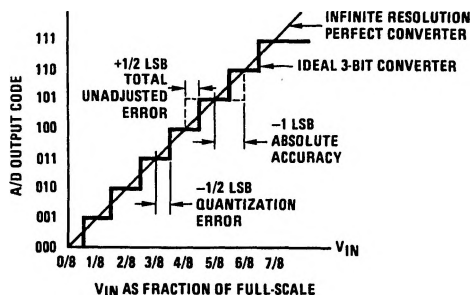
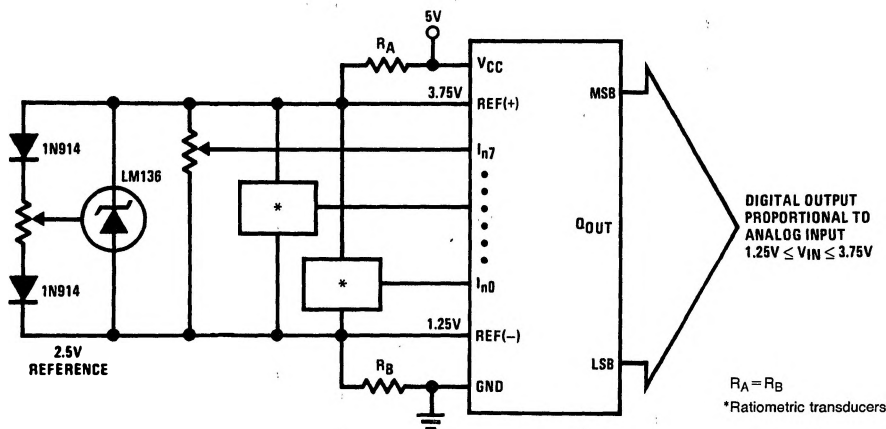

FIGURE 3. 3-Bit A/D Absolute Accuracy Curve
FIGURE 13. Symmetrically Centered Reference
**Note 5:** Total unadjusted error includes offset, full-scale, linearity, and multiplexer errors. See Figure 3. None of these A/Ds requires a zero or full-scale adjust. However, if an all zero code is desired for an analog input other than  $0.0V$ , or if a narrow full-scale span exists (for example:  $0.5V$  to  $4.5V$  full-scale) the reference voltages can be adjusted to achieve this. See Figure 13.
The top and bottom ladder voltages cannot exceed  $V_{CC}$  and ground, respectively, but they can be symmetrically less than  $V_{CC}$  and greater than ground. The center of the ladder voltage should always be near the center of the supply. The sensitivity of the converter can be increased, (i.e., size of the LSB steps decreased) by using a symmetrical reference system. In Figure 13, a 2.5V reference is symmetrically centered about  $V_{CC}/2$  since the same current flows in identical resistors. This system with a 2.5V reference allows the LSB bit to be half the size of a 5V reference system.